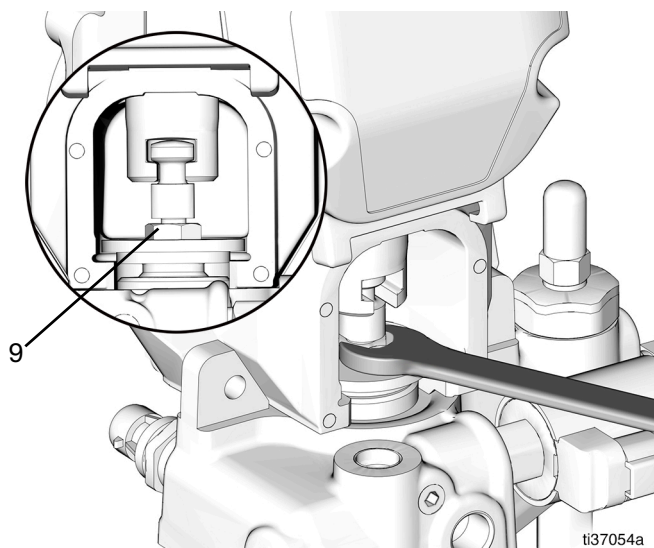

FIG. 33
11. Remove the protective cover (8).
12. Loosen the retaining nut (9) with a 5/8 in. open wrench (FIG. 33).